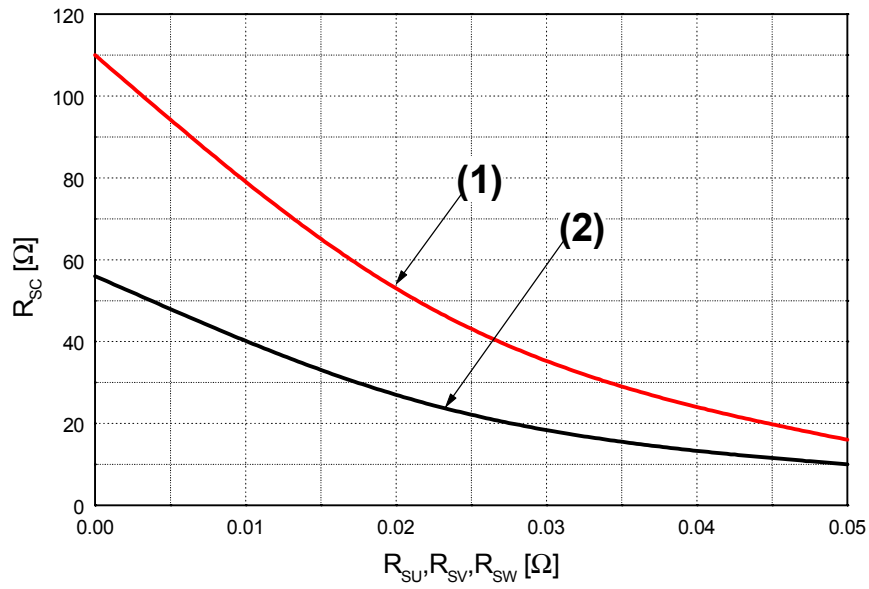

Fig. 6. R_{SC} Variation by change of Shunt Resistors (R_{SU} , R_{SV} , R_{SW}) for Short-Circuit Protection
5. Short-circuit current protection is functioning only at the low-sides. It would be recommended that the value of the external sensing resistor (R_{SC}) should be selected around 56 Ω in order to make the SC trip-level of about 45A. at the shunt resistors (R_{SU}, R_{SV}, R_{SW}) of 0Ω. For the detailed information about the relationship between the external sensing resistor (R_{SC}) and the shunt resistors (R_{SU}, R_{SV}, R_{SW}), please see Fig. 6.